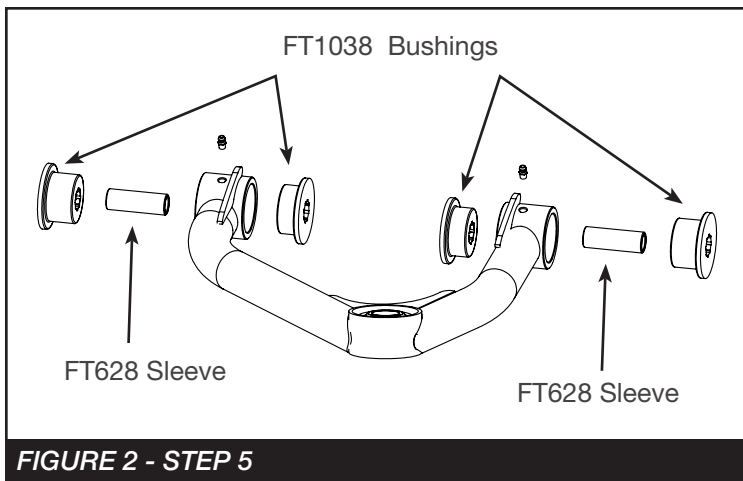

FIGURE 2 - STEP 5
5. Locate the new FT20929 (Driver control arm) & FT20930 (Passenger control arm). Install four FT1038 (Bushings), two FT628 (Sleeves) and two FT84 (Zerk fittings) into each arm. **NOTE: Coat the new bushings and sleeves using the supplied grease packet. SEE FIGURE 2**